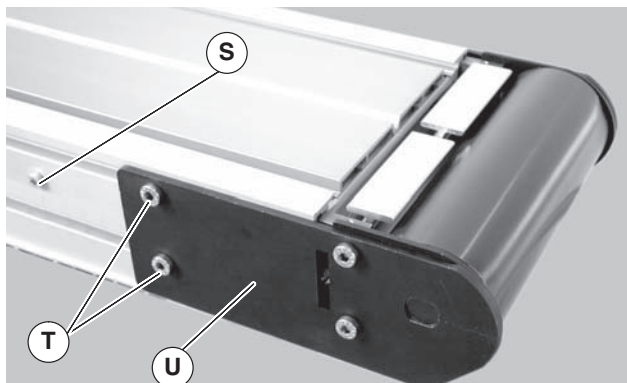
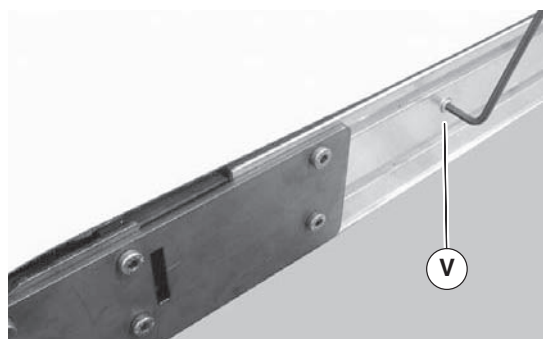

Figure 18
Figure 19
2. On tension end of the conveyor, identified by the pinion locking screw (Figure 18, item S), push in head plate assembly (U): Loosen the pinion locking screw (S), adjust the pinion torque screw (Figure 19, item V). On both sides of conveyor, loosen the two tail clamp bolts (Figure 18, item T), and push head plate assembly (U) inward.